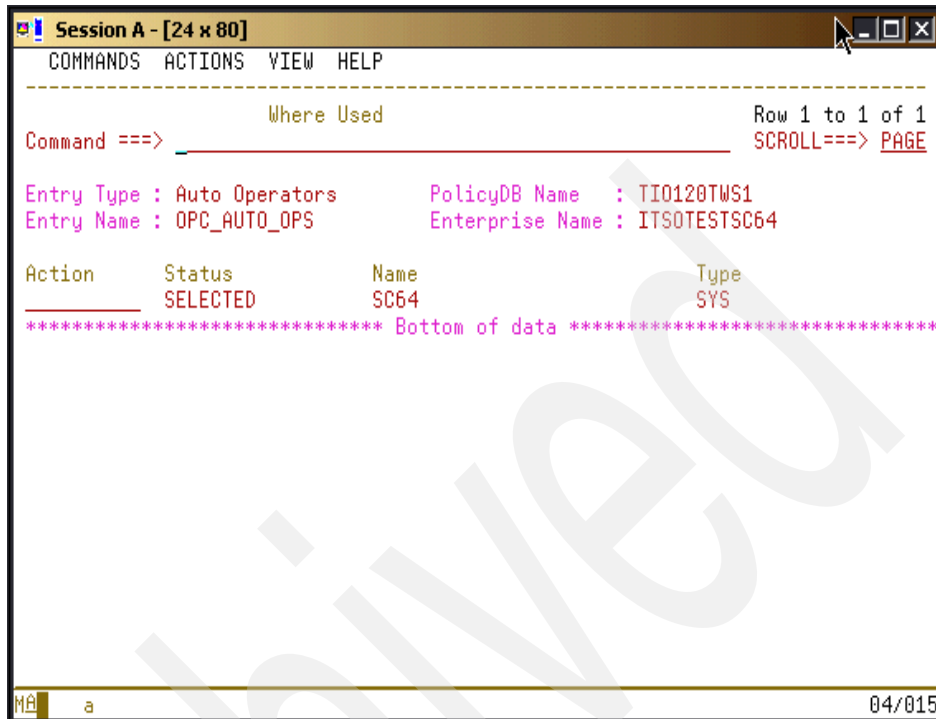

Figure 4-18 OPC_AUTO_OPS panel with system SC64 SELECTED
5. The Where Used panel shows the name of systems that are defined in your automation policy. Because we have defined only one system, we have one choice. You can have more than one choice. Place an s in the action column of each system where these Auto Operators are to be used and press Enter. The Status field changes to SELECTED as shown in Figure 4-18 on page 120.